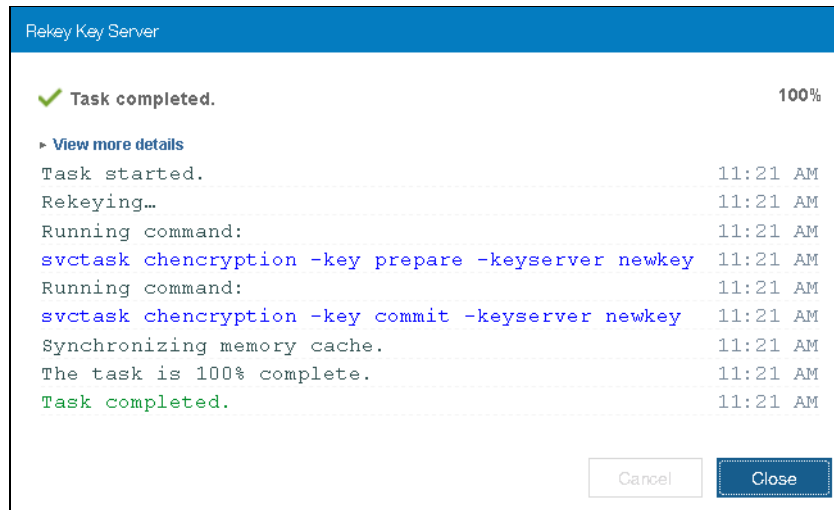

Figure 7-64 Rekey Key Server completed
3. During the rekey process, a series of CLI commands shows that new key is first prepared and then committed. In the Rekey Key Server window, click **Close** (Figure 7-64).